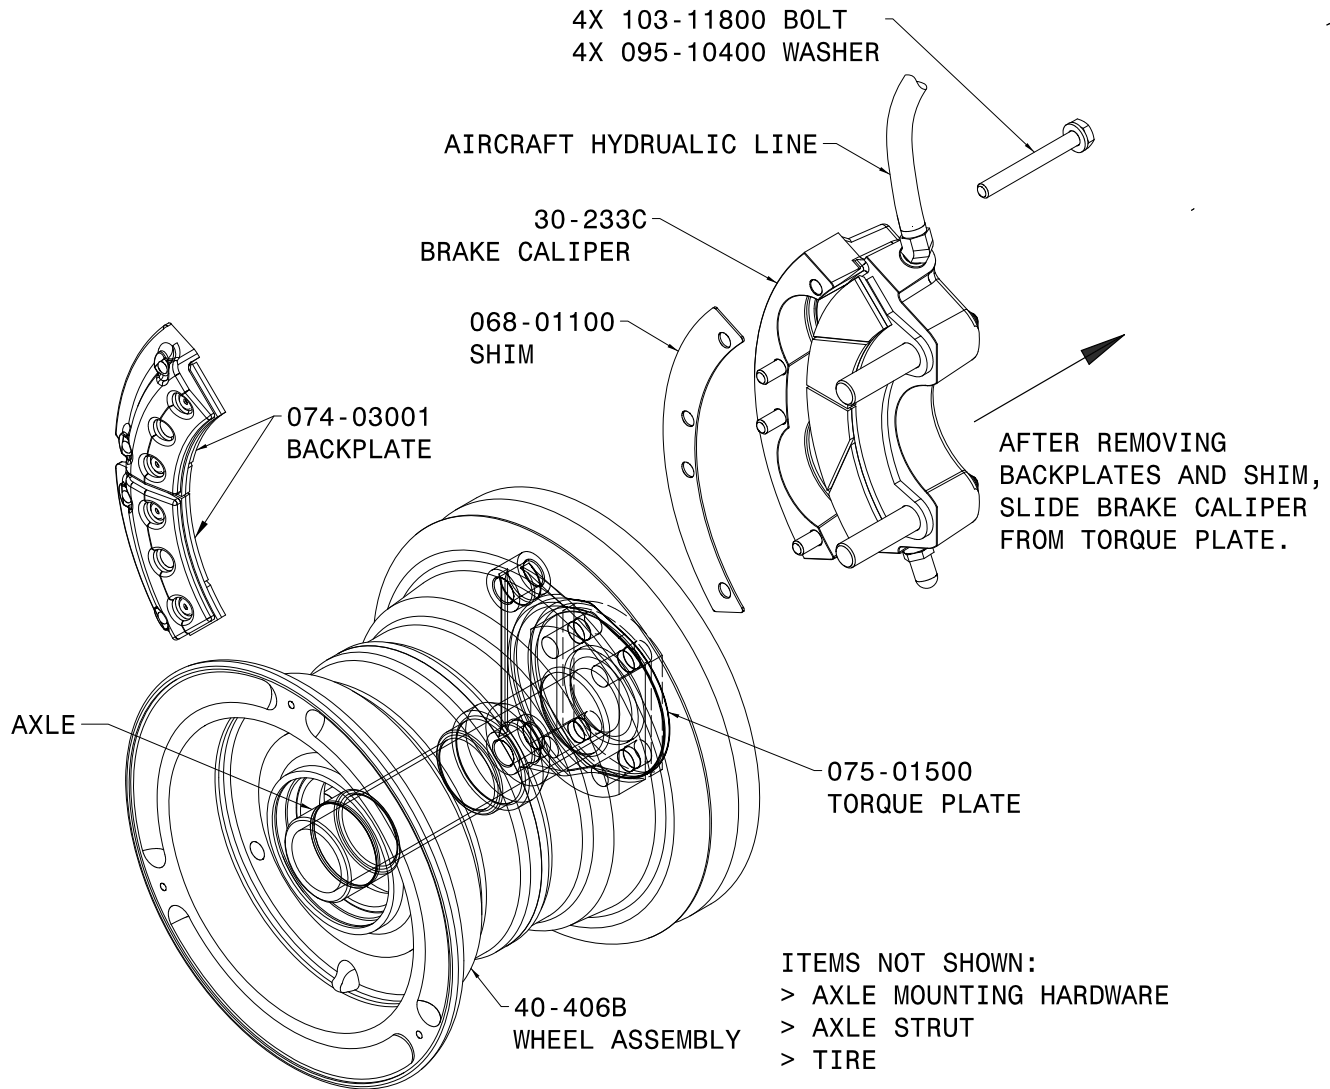

Figure 3 Remove the brake assembly
Refer to Figure 3.
(1) Refer to Figure 3 and remove the 2X back plate assemblies (074-03001) by loosening the 4X bolts (103-11800) and washers (095-10400). Remove the shim (068-01100).